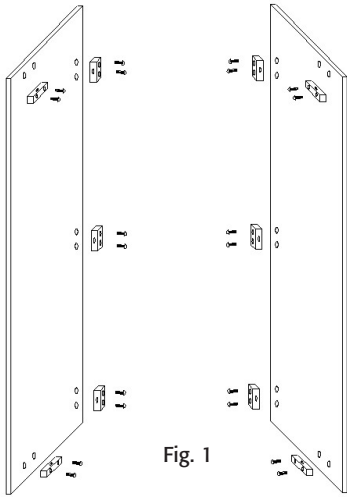

Fig. 1
Step 1: Attach 10 plastic connectors [R] to Side panels [D] with 20 KD screws [Q]. See Fig. 1